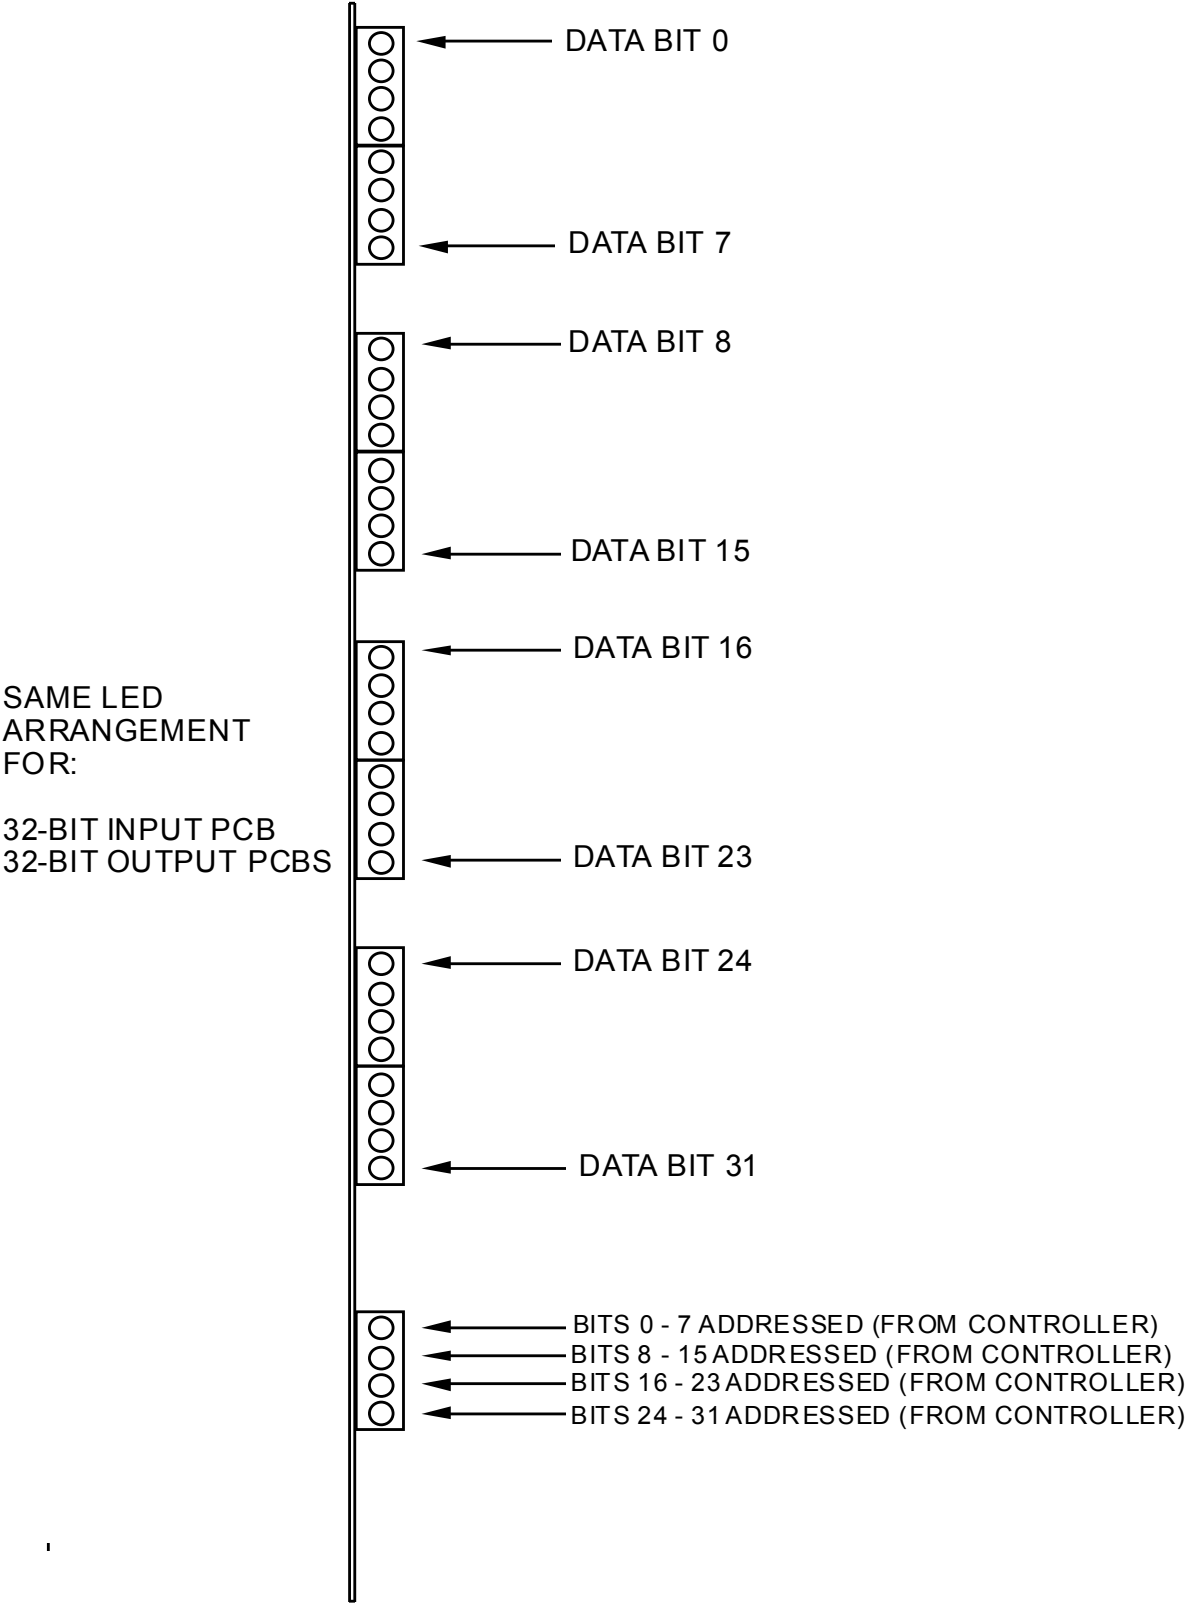

Figure 3-9. 32-Bit I/O Boards LEDs
Figure 3-9 shows the board edge arrangement of the LEDs for both types of boards.
- C. Check board LEDs (Ref. Figure 3-9).